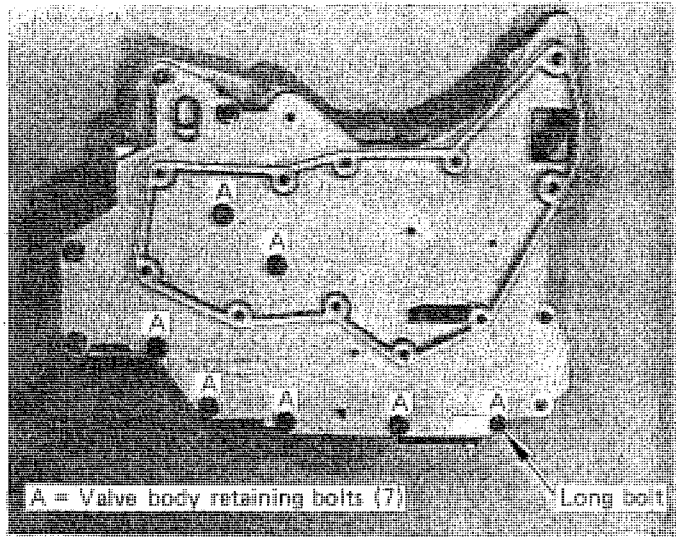

FIGURE 5
**STEP 7.** Remove the remaining valve body bolts as shown in Figure 5. Note these are short bolts with one long bolt. The valve body consists of three parts. The thick aluminum housing with all the valves is called the casting, a thin aluminum plate called a transfer plate that the filter was attached to, and a thin steel plate called a separator plate.
separator plate. Hold the valve body halves together and install six short bolts and one long bolt in place. (See Fig. 5) Tighten bolts **finger tight**.